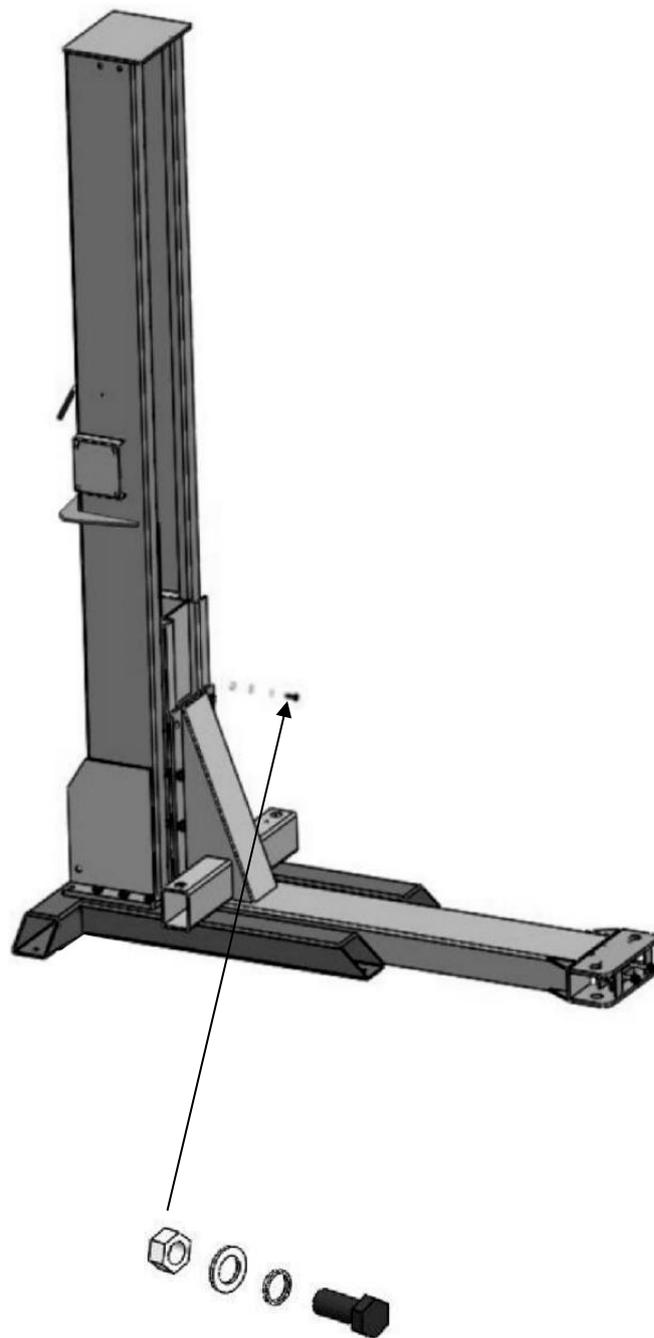

Fig. 13
4. Fix lifting platform to carriage. (**See Fig.13**)